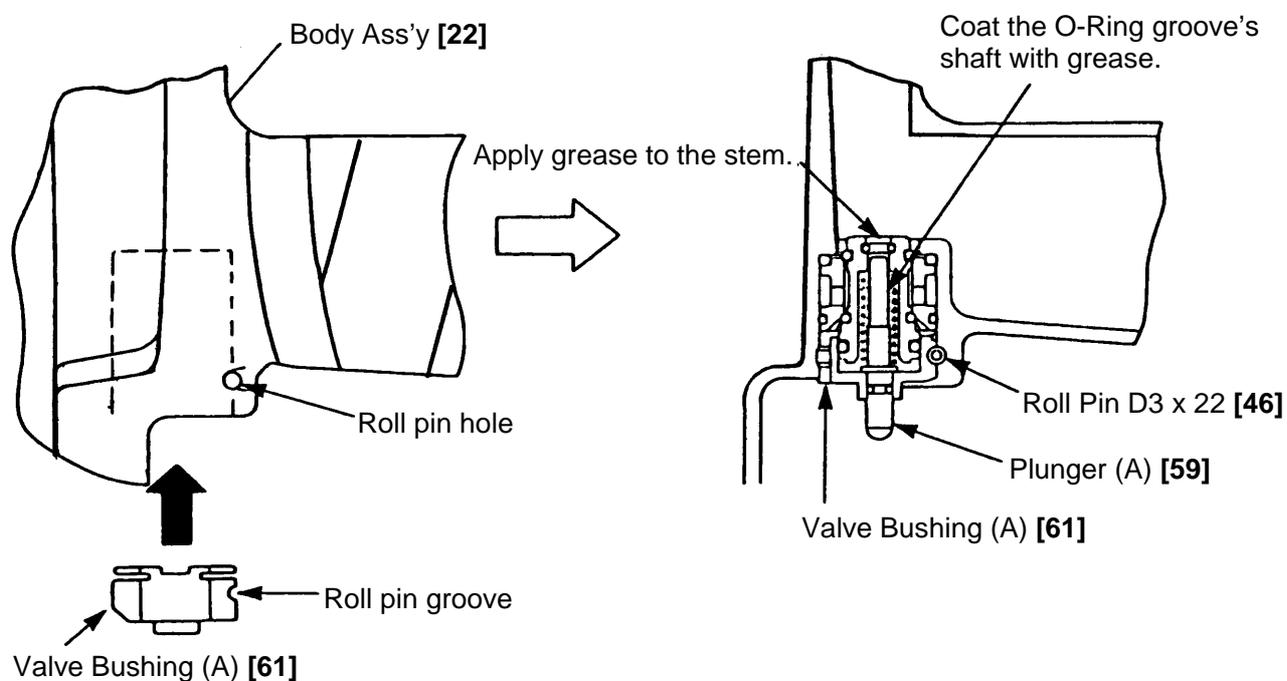

Fig. 15
- Thoroughly apply grease to the O-Ring (I.D 1.8) [60] of Plunger (A) [59], the O-Rings (S-4), (I D 8.8) and (I D 11) [54], [56] and [57] of Valve Piston (B) [55], and the shaft of Plunger (A) [59] shown in Fig. 15.
- As shown in Fig. 15, install Valve Bushing (A) [61] so that the roll pin groove in Valve Bushing (A) [61] will be aligned with the roll pin hole in the Body Ass'y [22]. First, insert the roll pin puller (3 mm dia.) into the roll pin hole. Then, Upon confirming that the puller passes through the hole, drive in the Roll Pin D3 x 22 [46].